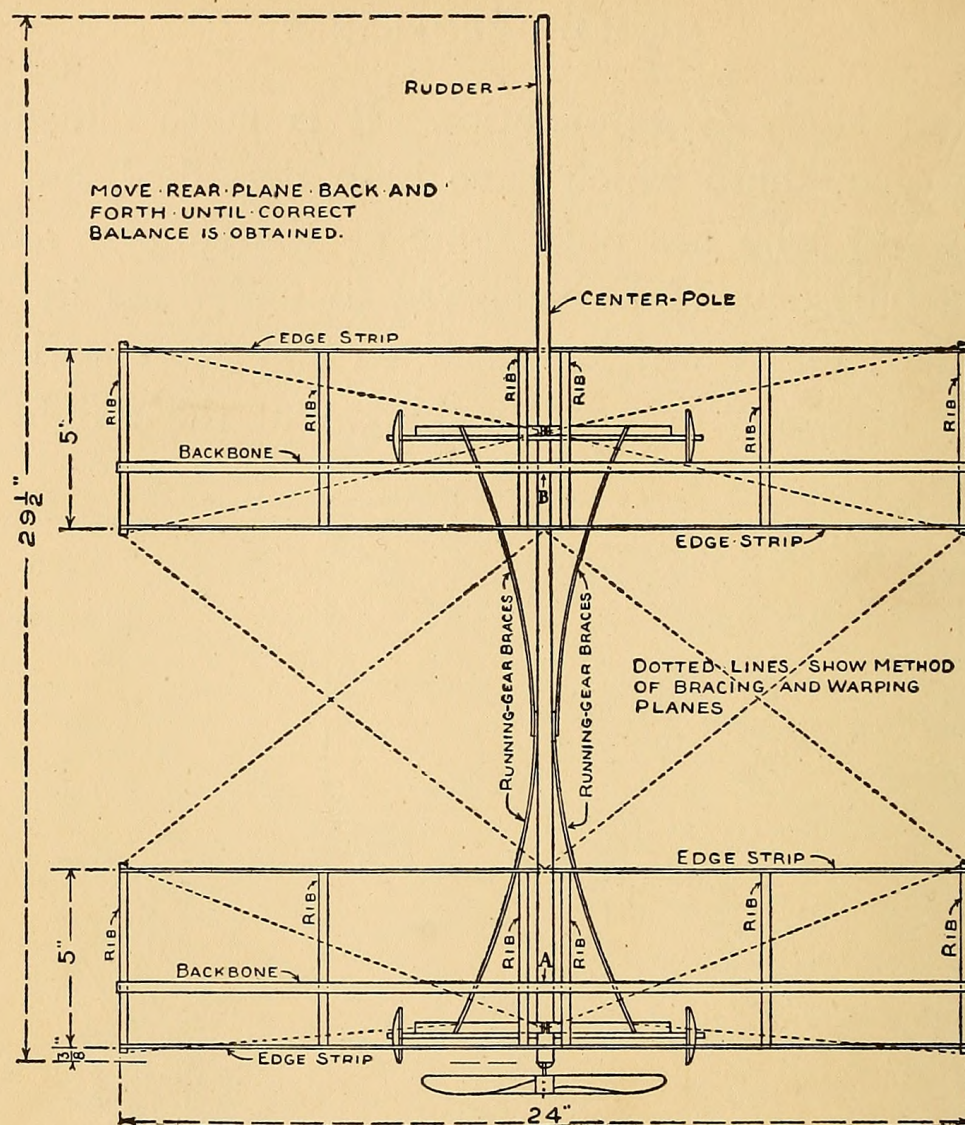
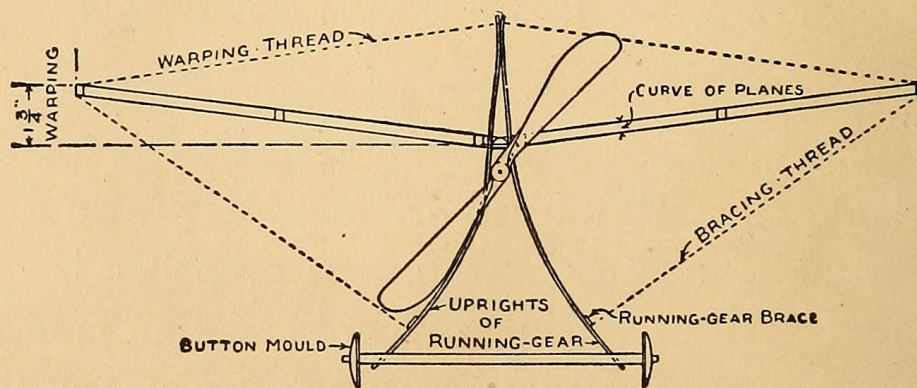
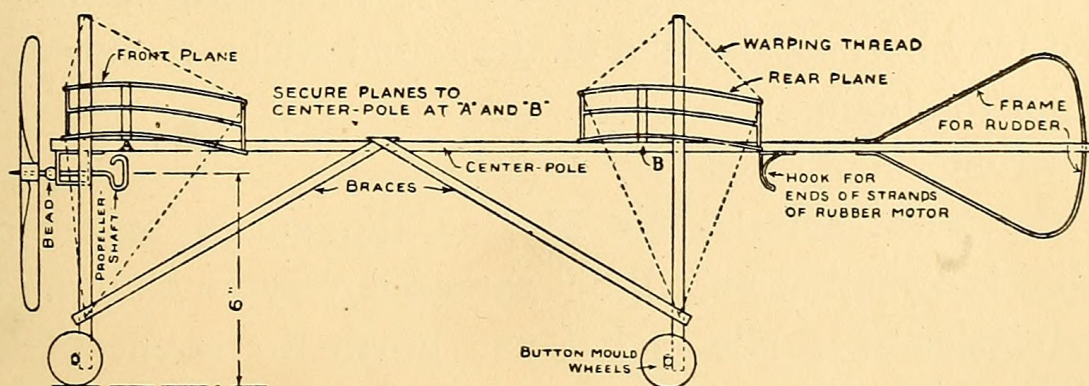

FIG. 398.—Plan or Top View.
FIG. 399.—Front Elevation of Monoplane Model shown in Fig. 397.
FIG. 400. — Side Elevation of Monoplane Model shown in Fig. 397.
tioned and properly placed, working-drawings are shown to a scale of  $\frac{1}{8}$  inch to the inch; that is, the plan or top view (Fig. 398), the front elevation (Fig. 399), and the side elevation (Fig. 400) are reproduced upon the pages at such a size that  $\frac{1}{8}$  inch of the drawing on the page represents 1 inch on the model, which you will understand if you have studied the instructions in Chapter IV for making working-drawings. By placing an ordinary ruler upon the pages you will be able to tell exactly what any measurement is.
Unless you have had some experience in reading mechanical drawings, there is one thing which may puzzle you, and which I shall explain. If you look at the propeller in Figs. 398 and 399, you will see that it is shown shorter in the plan than in the front elevation; the plan does not, in this case, show the correct length, but represents the top view when the propeller is turned to the angle shown in the front elevation. It is *foreshortened* in the plan. The propeller is foreshortened in the same
way in the side elevation (Fig. 400), which shows it as it would be seen in a side view when it is turned as shown in the front elevation. As all other portions set at an angle are foreshortened in a similar manner, in all views in which you do not look squarely at them, be careful to use the drawing which shows the true length, in taking off the measurements.
**The Running-gear** consists of two triangular frames, on each of which a pair of button molds are mounted for wheels. Measure off the lengths of the strips, from the drawings, and fasten the strips together as in Fig. 401. Whittle down the ends of the axles to fit the holes in the button molds, and drive pins through them to hold the molds in place. After completing the frames, bind them to the center-pole and brace each upright with a diagonal brace, as shown in Figs. 398 and 400.
The **Shaft** is made out of a piece of stiff wire (Figs. 400 and 402). File a square taper upon the propeller end of this, so that the propeller will not turn upon it, and, after slipping it through the bearing, solder a glass bead on to it 1 inch from the end, as shown, to relieve the propeller of all motor strain. Drive the propeller on to the end of the shaft, carefully, so as to avoid the danger of splitting it. It is not necessary to clinch the end of this shaft, if you drive the propeller on to it properly; and there is an advantage in not clinching it, in the fact that the propeller can easily be removed then, in case
The hook for the rear end of the rubber motor should be bent out of a piece of brass, and be wired to the under side of the center-pole to a flattened surface, as shown in Fig. 400.
Bind the planes to the center-pole at *A* and *B* (Figs. 398 and 400), being careful in doing so to place them exactly at right angles to the pole. The rear plane will have to be readjusted, after the model has been completed, to a point which will produce a perfect balance of the machine, but the position shown is an approximate location and a good one for a first trial.